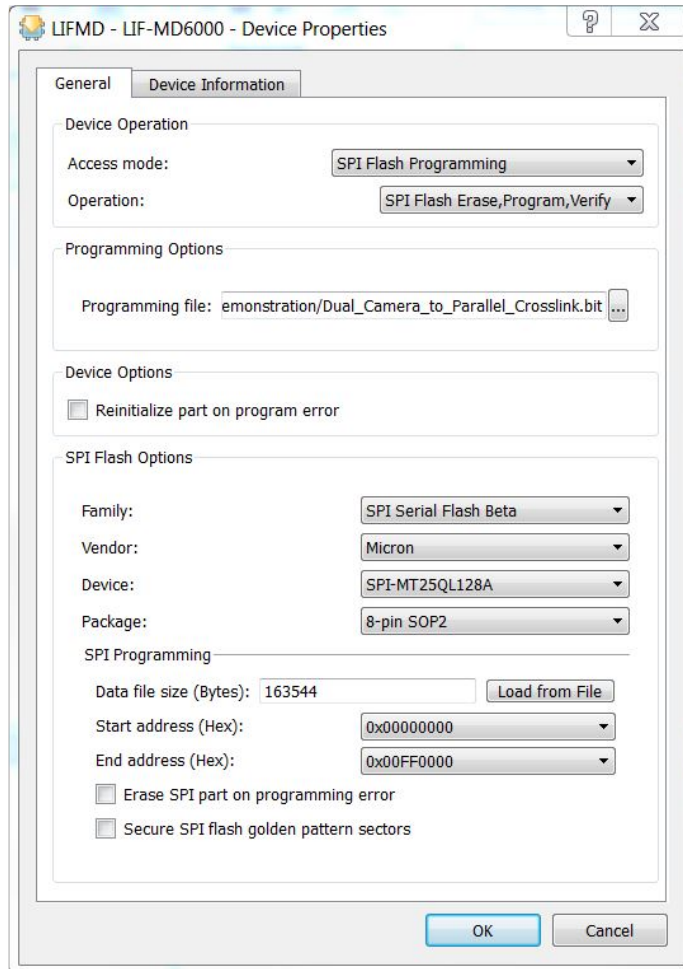

Figure 4.7. Selecting General Options
2. In the Diamond Programmer main interface, click the CrossLink row and select **Edit > Device Properties** to open the **Device Properties** dialog box as shown in Figure 4.7.